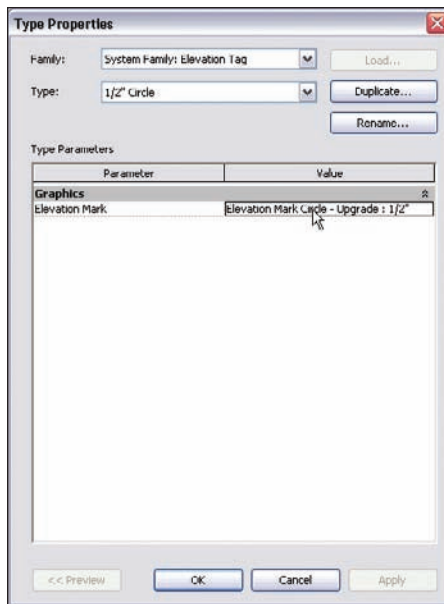

FIGURE 3.83 Modifying the properties for the elevation markers
2. At the top of the Type Properties dialog, you will see Family: System Family: Elevation Tag. Below that you will see Type. Change Type from 1/2" square to 1/2" circle (see Figure 3.83).